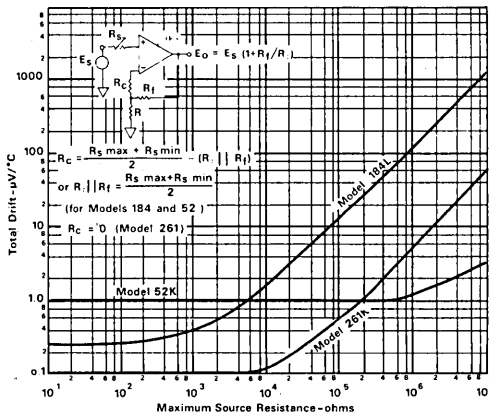

Figure 3. Offset Drift vs. Variable Source Resistance
**Variable Source Resistance.** For situations where the source resistance can vary over a significant range, for instance when the amplifier's source is a multiturn potentiometer, a different set of conditions apply. The effective drift current to be considered for differential chopperless amplifiers is now the Input Bias Current $^\circ\text{C}$ , rather than the Input Difference Current $^\circ\text{C}$  ( $I_{Os}/^\circ\text{C}$ ). A two to one improvement in drift for the model 184 can be obtained if the bias current balancing resistor ( $R_C$  in Figure 3) is made equal to the mean value of the source resistance. Under these conditions, drift will be approximately:
Figure 3 shows the total drift for a source resistance varying from zero to the chosen value, for models 52K, 184L and 261K. For values up to 200,000 ohms the model 261 again gives the lowest total temperature drift.